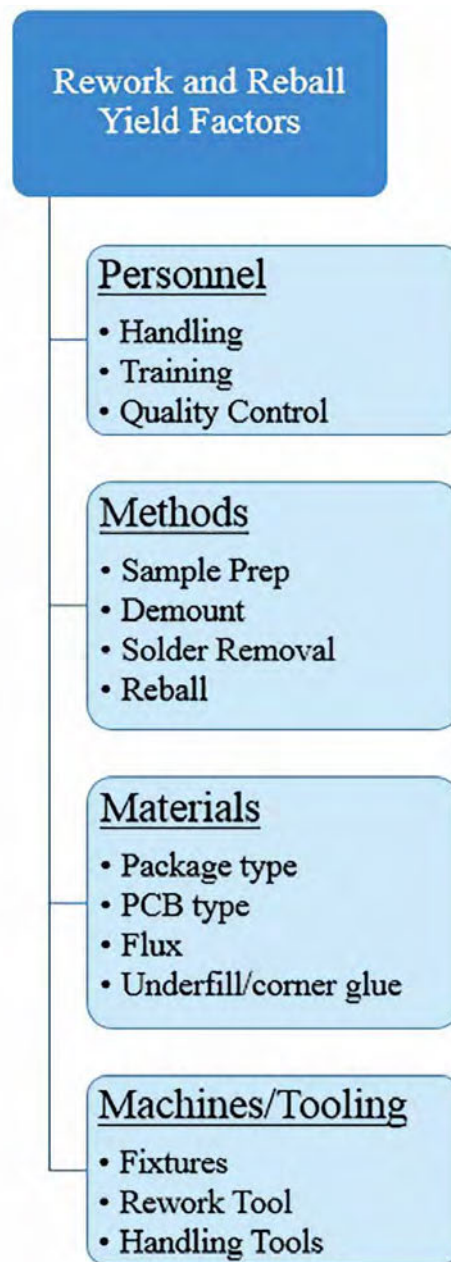

Figure 3: Diagram showing the factors that dictate the yield of rework and reball processes.
Rework and reball process yield is influenced by several different factors, and can be classified into four general categories, including: (1) personnel; (2) methods; (3) materials; and (4) machine/tooling^[5]. Figure 3 summarizes the various categories and sub-categories for a typical PCB assembly.